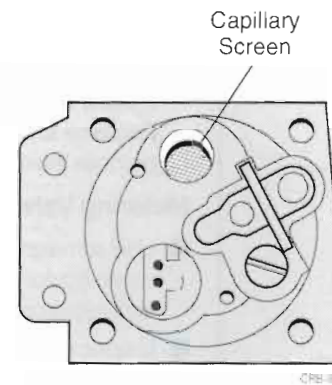

Figure 3.19 Capillary Screen
- A fine-mesh capillary screen (Figure 3.19).